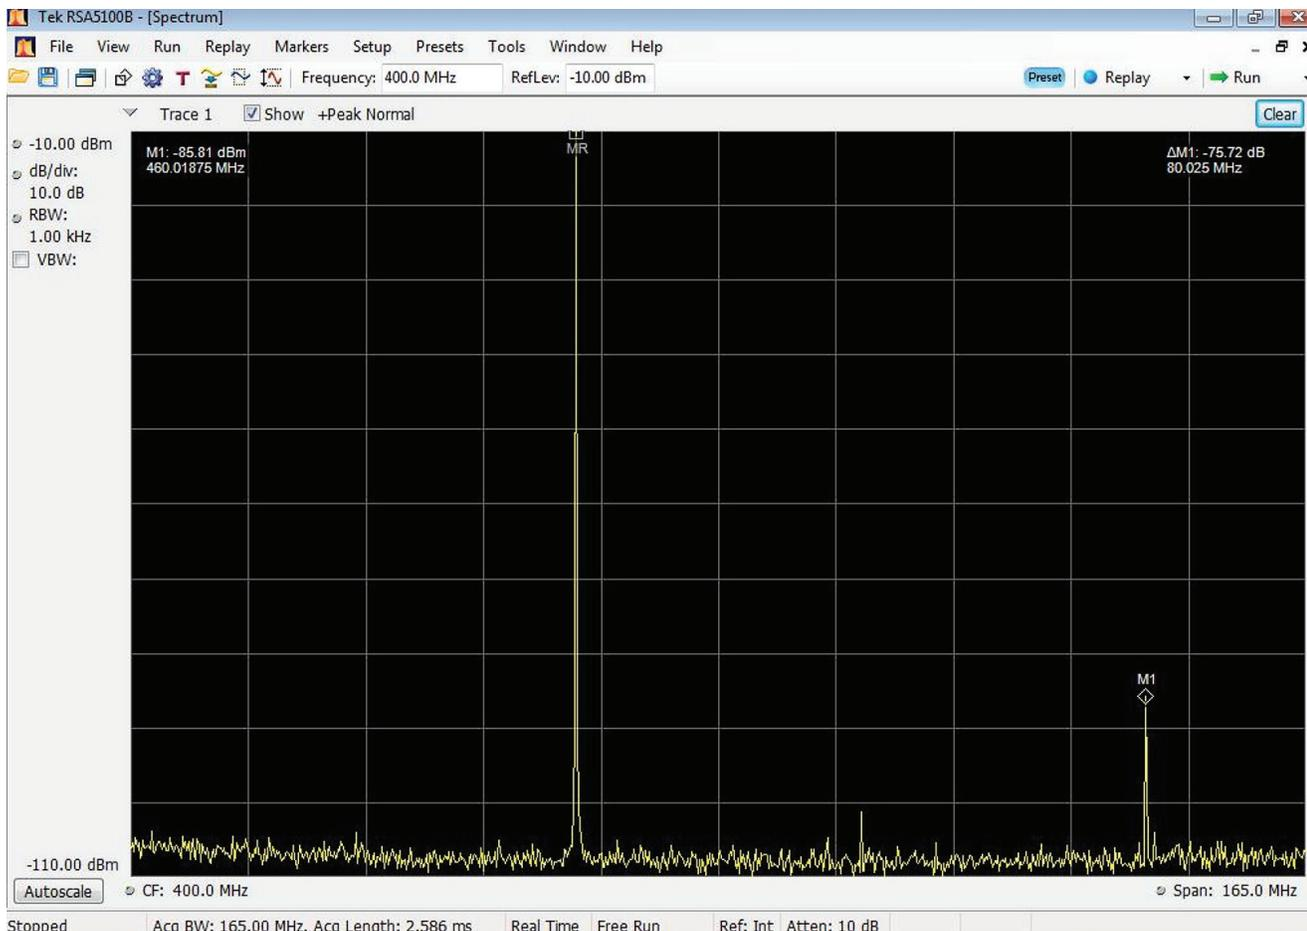
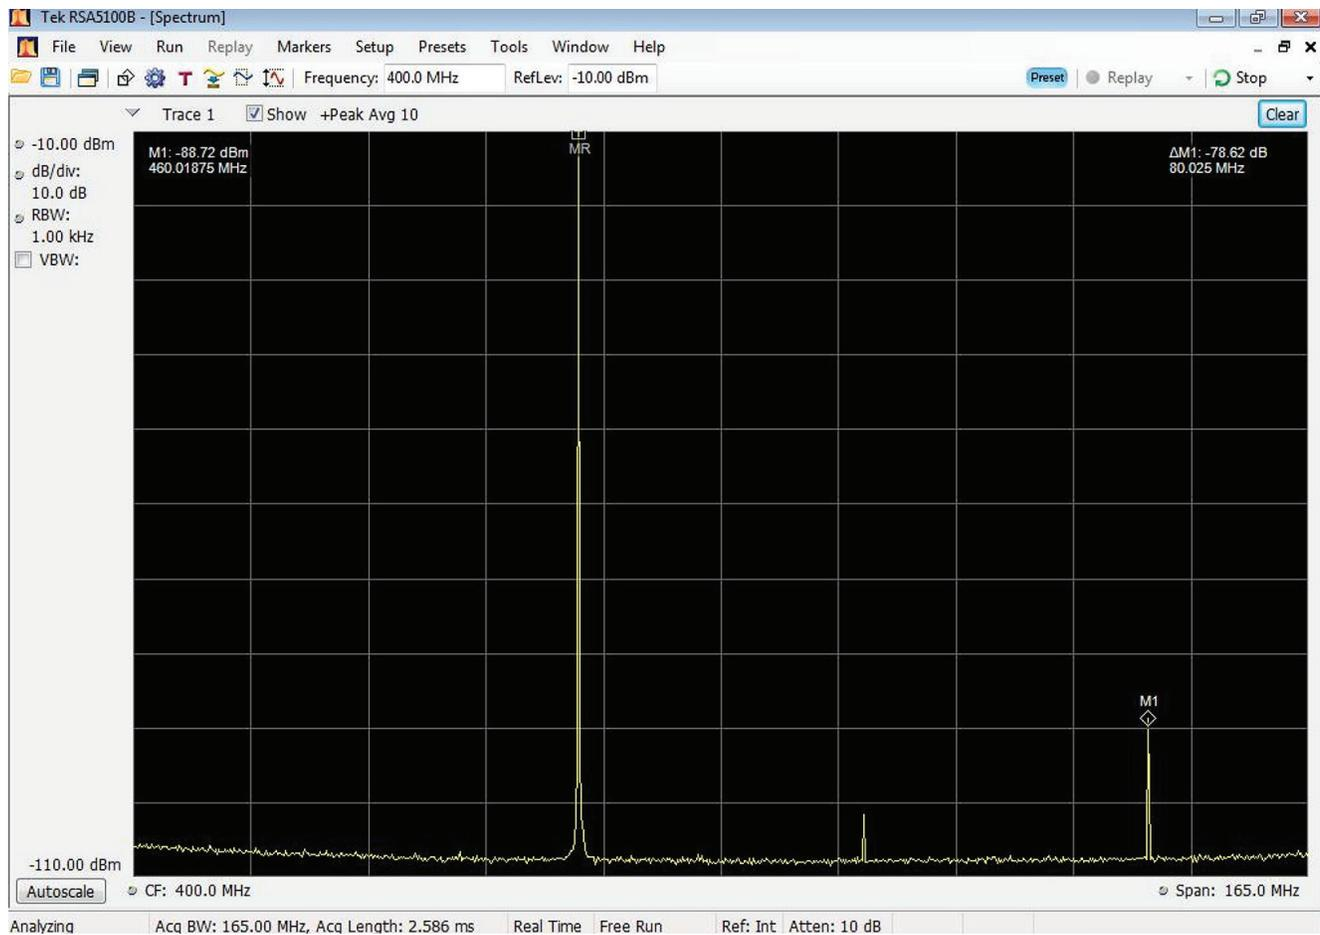

Figure 2. Performance of Option B16x showing IF/ADC-generated harmonic distortion at -75.72 dBc. The signal at M1 is the combination of HD2 and HD3 combine.
Figure 3. Performance of Option B16x showing IF/ADC-generated harmonic distortion at -78.62 dBc, after 10 averages to reduce noise variations on the signal.
Figure 2 shows a signal at the reference level of -10dBm and the spectrum that you would typically see for a center frequency (CF) of 400 MHz with a 380 MHz tone applied to the input. The span is 165 MHz. There are usually two or three signals created by the instrument that limit SFDR. The main component shown above by marker M1 at -75.72 dBc is the point where the HD2 and HD3 of the input signal in the
Figure 3 is the same conditions as in Figure 2, except with 10 rms averages of the traces. The result is a less noisy measurement of about -79 dBc at M1.